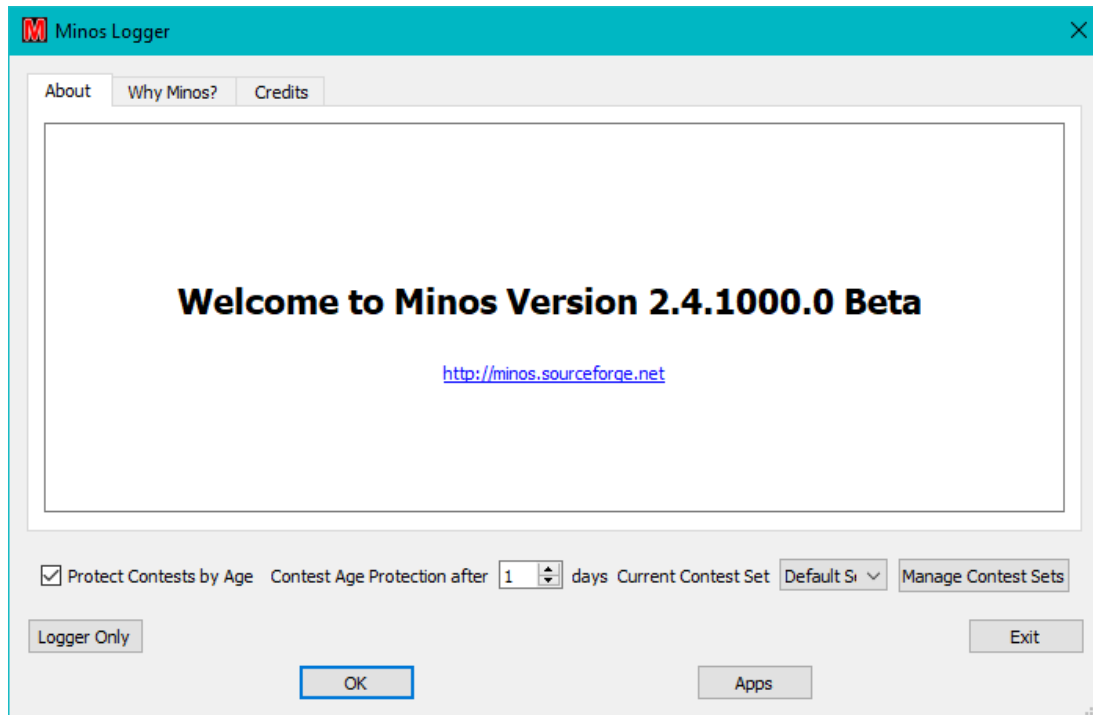

Figure 11 – Welcome screen
- Automatically, after the number of days specified in the “**Contest Age Protection after**” field on the Welcome screen (see **Figure 11**) have passed since the end of the contest. If the contest has been age protected then both the “**Protected**” and “**Age Protected**” boxes (Figure 16) are set.